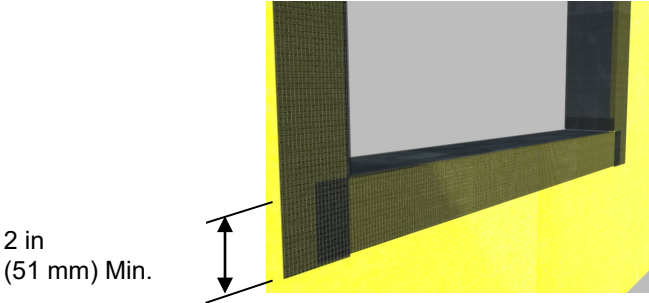

Figure 3
4) Install the AquaFlash System at the jambs in the same manner overlapping onto the sill material a minimum of 2 in (51 mm) – Figure 3.